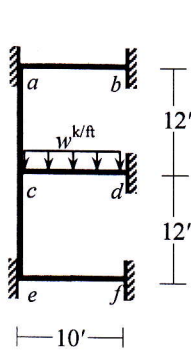

Fig. 6
8. Frame structure *abcdef* shown in **Fig.6** is subjected to a dynamic load, $w = 10 e^{3t}$ (k/ft). Use *Constant Average Acceleration (CAA)* Method to calculate the rotation of joint *c* at time $t = 0.10 \text{ sec}$ [Given: $EI = 40 \times 10^3 \text{ k-ft}^2$, $\mu = 0.0045 \text{ k-sec}^2/\text{ft}^2$, Damping ratio of the system = 8%].